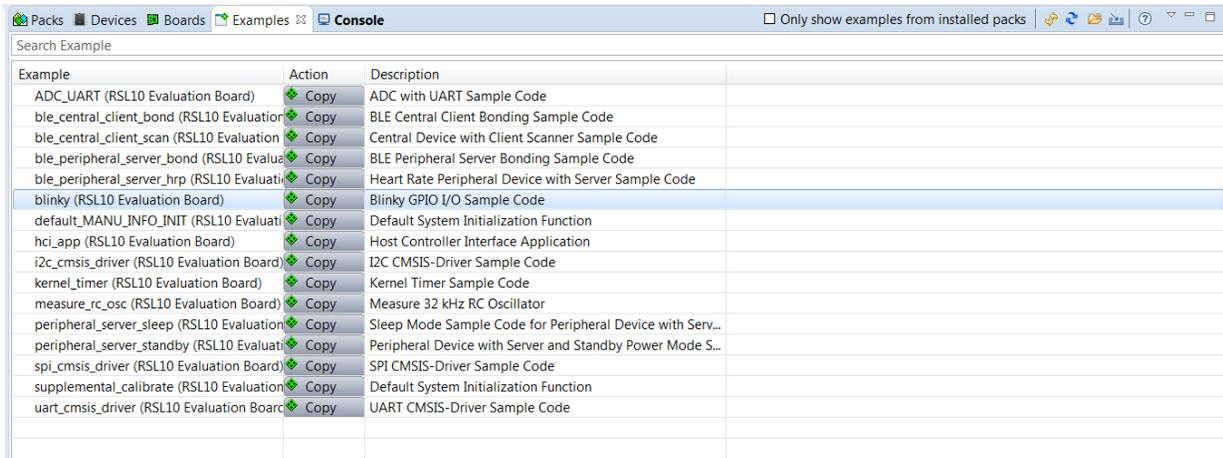

Figure 31. IAR Embedded Workbench CMSIS Manager: Examples Tab
- Choose the example project called *blinky*, and click the **Copy** button to import it into your workspace (see Figure 31 on page 28). Choose a destination folder for a copy of the sample code.